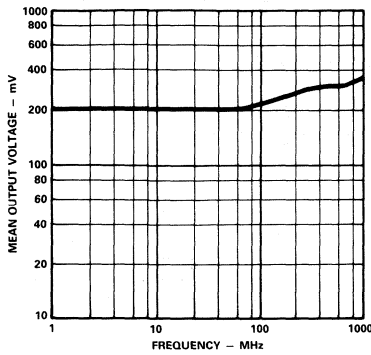
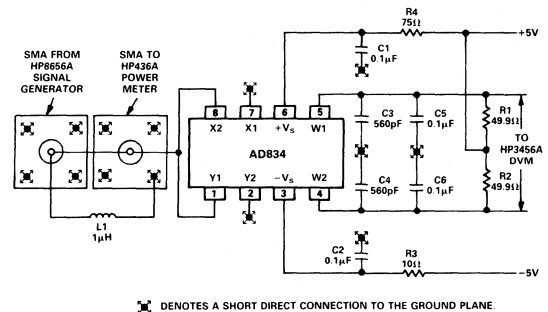

Figure 1. Mean-Square Output vs. Frequency
Figure 5. Bandwidth Test Circuit
4Bandwidth is guaranteed when configured in squarer mode. See Figure 5.
**Figure 1.** Figure 1 is a plot of the mean-square output versus frequency for the test circuit of Figure 5. Note that the rising response is due to package resonances.
**Figure 5.** The squarer configuration shown in Figure 5 is used to determine wideband performance because it eliminates the need for (and the response uncertainties of) a wideband measurement device at the output. The wideband output of a squarer configuration is a fluctuating current at twice the input frequency with a mean value proportional to the square of the input amplitude.
(Refer to Figure 5 test configuration.) Using the device as a squarer the wideband output in response to a sinusoidal stimulus is a raised cosine:
The physical construction of the circuitry around the IC is critical to realizing the bandwidth potential of the device. The input is supplied from an HP8656A signal generator (100kHz to 990MHz) via an SMA connector and terminated by an HP436A power meter using an HP8482A sensor head connected via a second SMA connector. Since neither the generator nor the sensor provide a dc path to ground, a lossy 1μH inductor L1, formed by a 22-gauge wire passing through a ferrite bead (Fair-Rite type 2743001112) is included. This provides adequate impedance down to about 30MHz. The IC socket is mounted on a ground plane, with a clear area in the rectangle formed by the pins. This is important, since significant transformer action can arise if the pins pass through individual holes in the board; this has been seen to cause an oscillation at 1.3GHz in improperly constructed test jigs. The filter capacitors must be connected directly to the same point on the ground plane via the shortest possible leads. Parallel combinations of large and small capacitors are used to minimize the impedance over the full frequency range. (Refer to Figure 1 for mean-square response for the AD834 in cerdip package, using the configuration of Figure 5.)